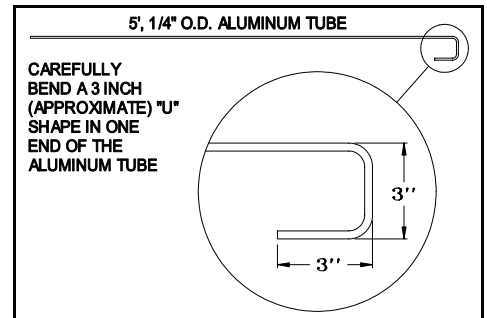

Figure 2
3. Bend a "U" shape in one end of the aluminum flow sensing tube. (See Figure 2)